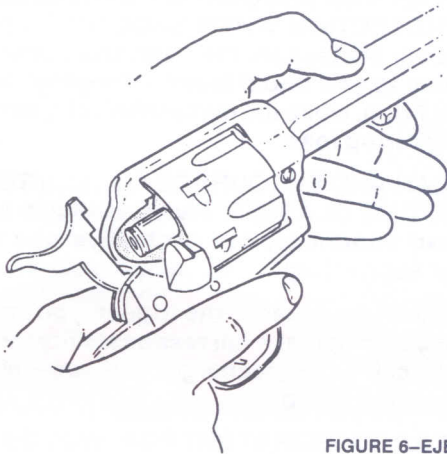

FIGURE 6—EJECTION
4. KEEPING FINGERS AWAY FROM TRIGGER, align chamber as shown in Figure 6 and push ejector rod, (located under the barrel) backwards through cylinder chamber, forcing out the live round or empty case, which should be removed from revolver. Allow ejector rod to return forward under its spring action.